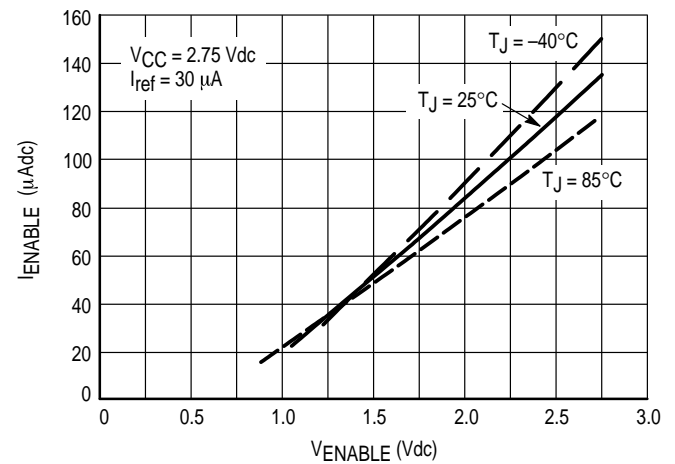

Figure 5.  $I_{enable}$  versus  $V_{enable}$
- Step 2: Insure that Min  $V_{ENBL}$  is  $\geq$  minimum indicated in Figures 5 and 6.